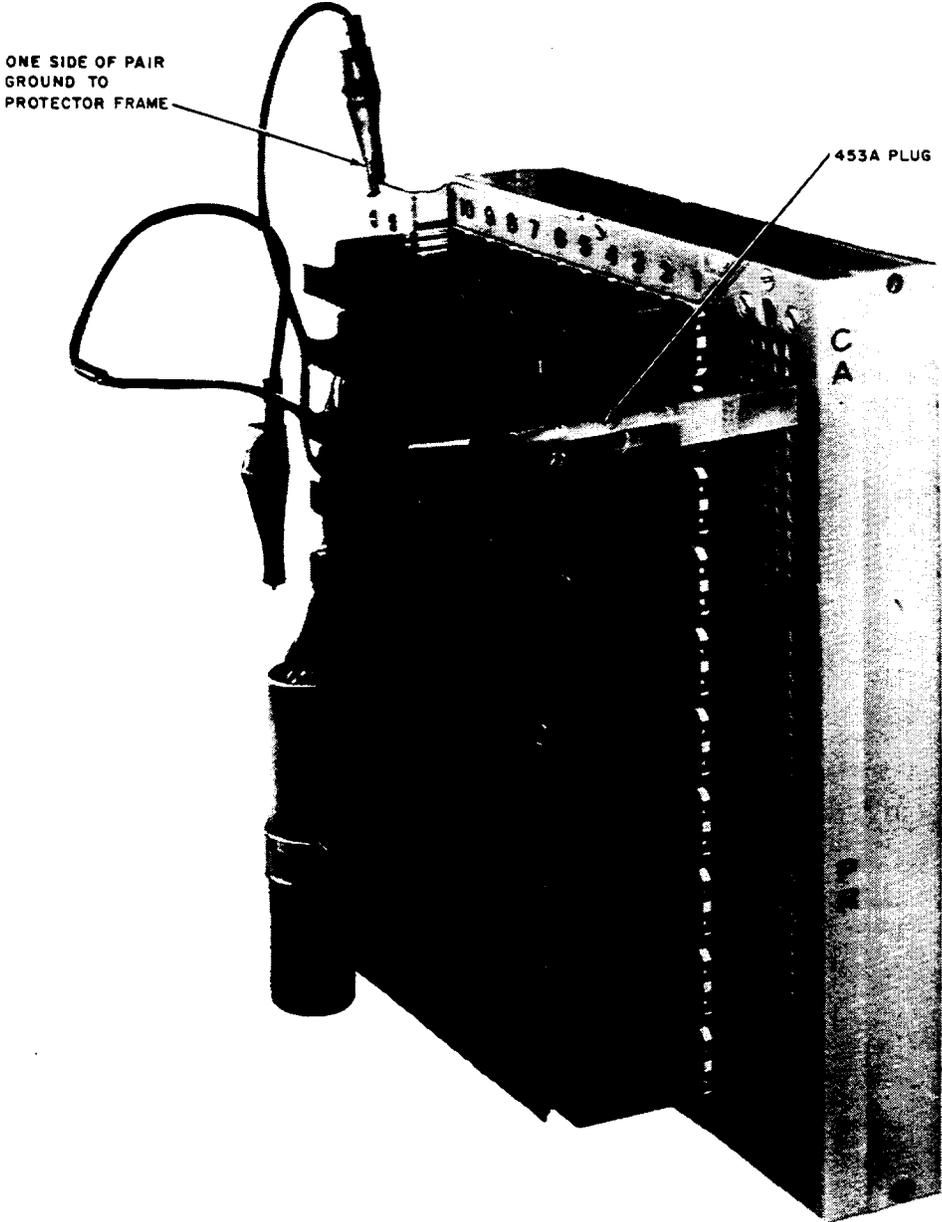

Figure 16—P2EF Test Cord for Testing Individual Pairs
**7.06** The 16-inch long P2EF test cord (Figure 16) is available for shorting tip and ring, and grounding the tip and/or ring of an individual cable pair at the test terminal field. The plug of the P2EF cord is pressed into the holes containing a pair of recessed test terminals.